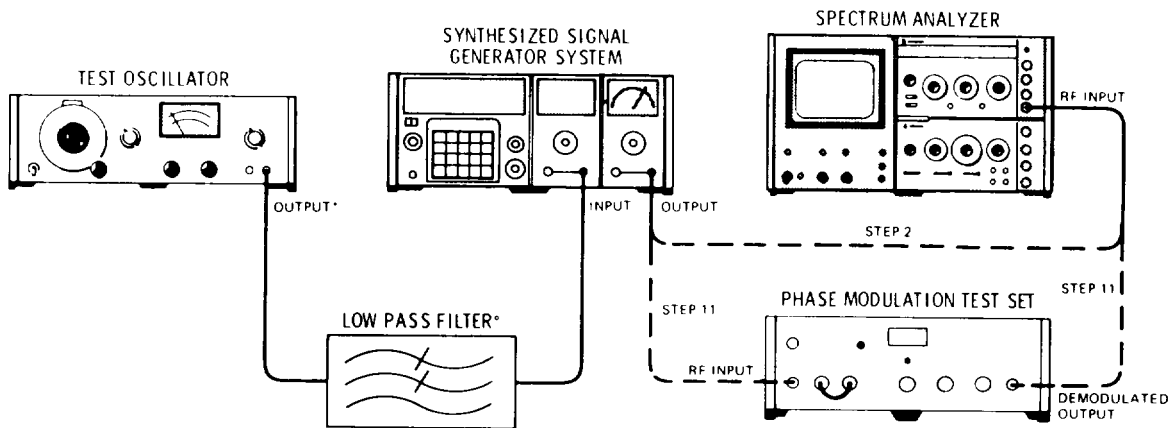

Figure 5-5B. Phase Modulation Level and Distortion Adjustment Test Setup (Alternate Procedure)
*In Figure 5-5B, the test oscillator output and low pass filter impedances are 50 ohms when the modulation section being used is a Model 86634A and 600 ohm when used with an 86635A.
11. Connect the phase modulation test set between the signal generator output and the spectrum analyzer input as shown in Figure 5-5B.